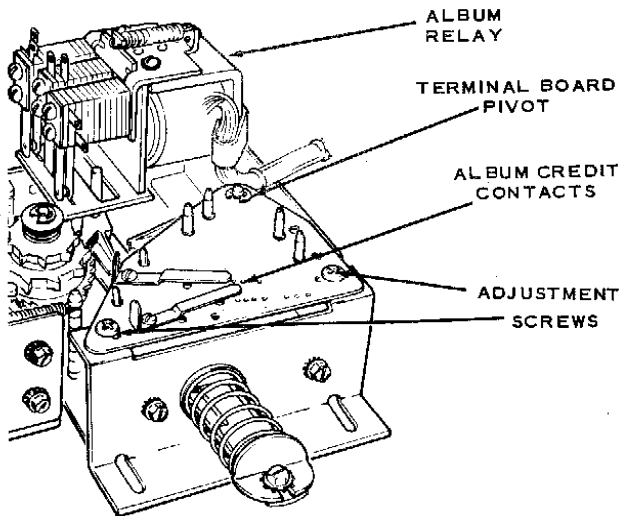

Figure 31. Component Identification.
3. Adjust by loosening adjustment screws (Figure 31) and positioning terminal board to meet the following requirements: